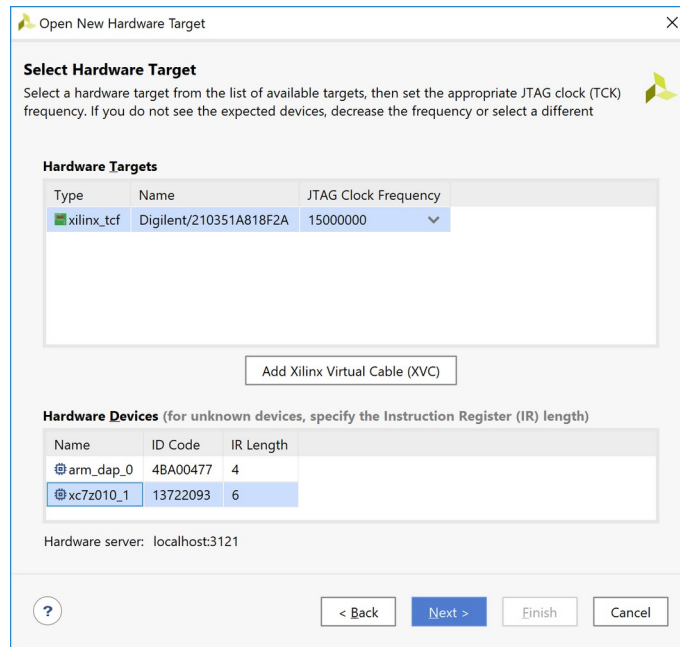

Figure 7: Hardware Target
- (b) Once the bitstream generation is completed, we need to download the bitstream to the FPGA on the ZYBO board. Turn on the power to the ZYBO board and make sure that the jumper JP5 is set in 'JTAG' mode. In the 'Flow Navigator' window, under the 'Program and Debug' panel click on 'Open Hardware Manager'. Click on 'Open Target' and in the pop up select 'Open New Target' which will open the 'Open New Hardware Target' window. Click 'Next'. select 'Local Server' in the 'connect to' field. Click 'Next'. Select 'xilinx tcf' in Hardware Targets and 'xc7z010\_1' in Hardware Devices as in (Figure 7). The 'arm dap 0' device is ARM Cortex Processor which is not needed for this lab. Click 'Next' and go through the summary and Click 'Finish'. Click on 'Program Device' in 'Open Hardware Manager', which is located in 'Program and Debug' in the 'Flow navigator', and select the FPGA 'xc7z010 1'. Click 'Program' to program the FPGA on the ZYBO board.